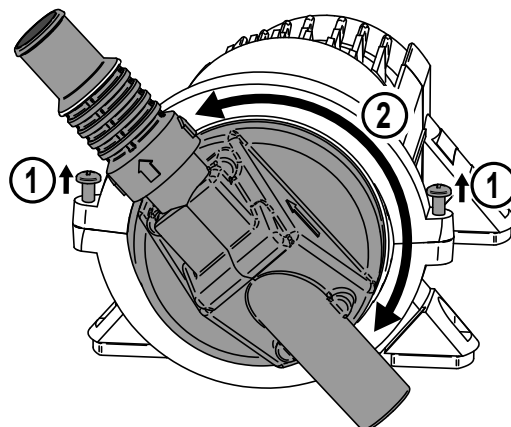

Figure 6 Rotating Head of Gulper 220 Pump
- Fig. 6 Rotating Head of Gulper 220 Pump